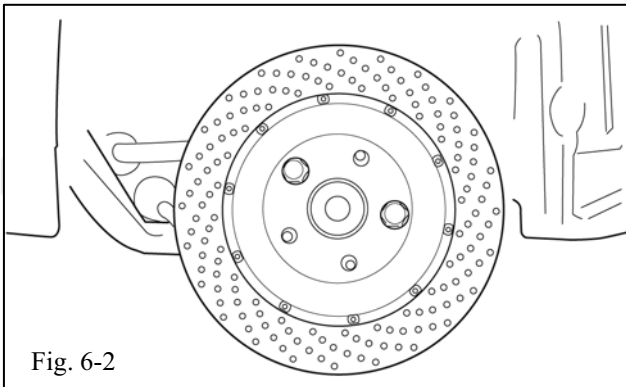

Fig. 6-2
- (c) Install the rotor assembly, seating it squarely on the hub face. Place two wheel nuts on opposite studs to prevent the rotor from falling off the hub and to hold it in place (finger tight) (Fig. 6-2).